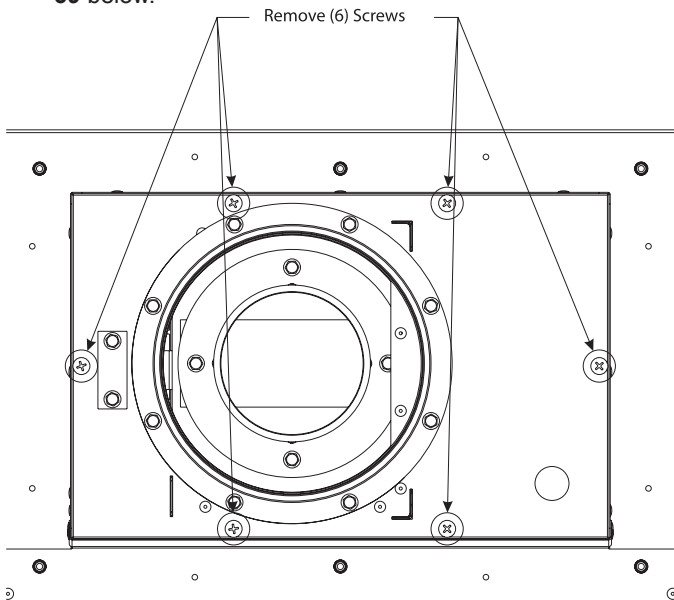

Figure 39
1. Remove the rear panel and flue box of the Power-Vent by removing the six #10-24 X 3/8-inch screws shown in **Figure 39** below.